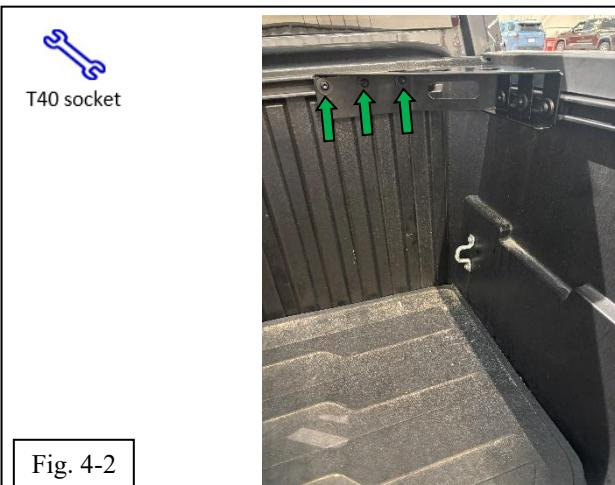

Fig. 4-2
- (b) Tighten the bolts attaching the V-Brace to the Front Bed Rail using a T40 socket (Fig. 4-2).